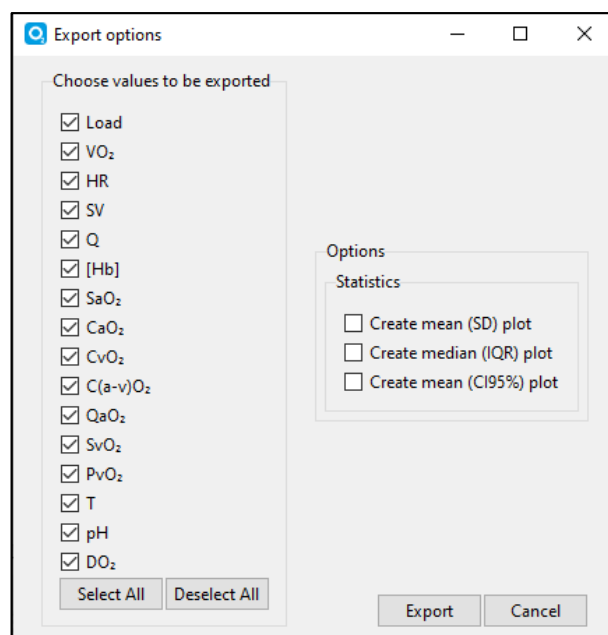

Figure 27 – You can select parameters to be exported by checking the checkboxes. By default, everything is exported.
2. Choose the parameters you want to export (figure 27).
3. Click the "Export" button (figure 27).